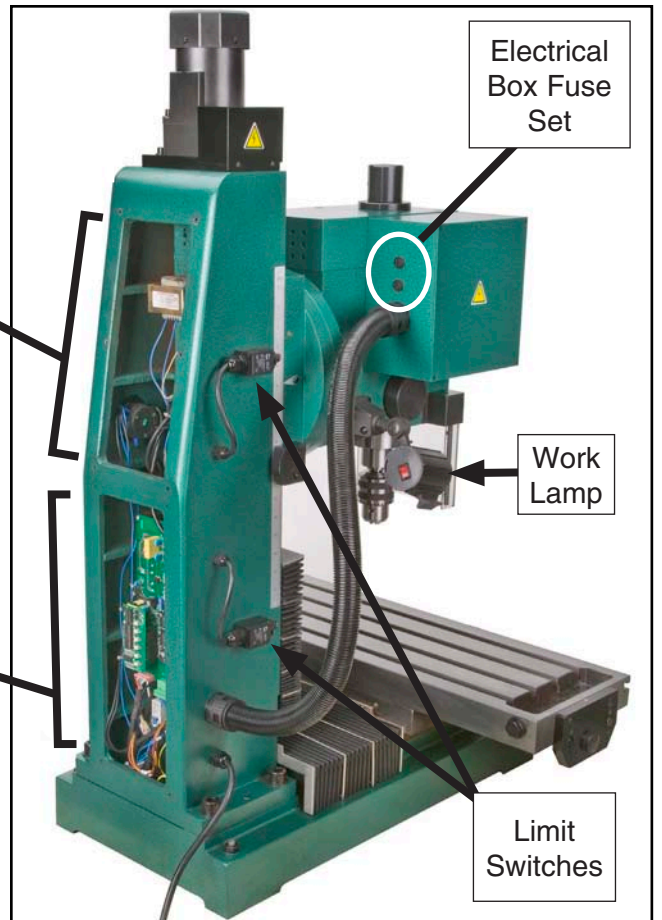

Figure 49. Rear view electrical components.
- e** Work Lamp (See Page 40 and Figure 49)
- i** Elevation Travel Limit Switches (See Page 39 and Figure 49)
- j** Power Cord (See Page 39 and Figure 49)